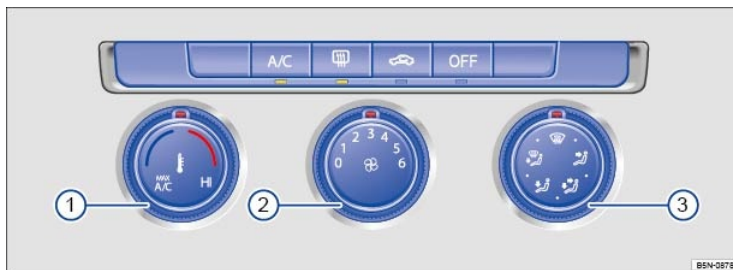
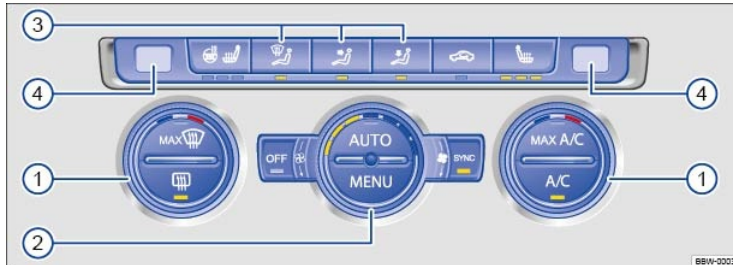

Fig. 104 In the center console: Manual controls.
Fig. 105 In the center console: Climatronic controls (may vary depending on equipment).
Press the **MENU** button in the Climatronic controls ⇒ Fig. 105② to open the air conditioning settings in the Infotainment system. Tap the corresponding function key switch a function on or off, or to select a submenu.
- **OR: Manual air conditioning:** Turn the fan knob to 0 ⇒ Fig. 104②.
- **Climatronic:** Turn the fan knob as far left as it will go ⇒ Fig. 105②
- *Manual air conditioning:* Turn the temperature knob $\Rightarrow$ Fig. 104① all the way to the left (**MAX A/C** position).
- *Manual air conditioning:* Turn the temperature knob $\Rightarrow$ Fig. 104① to set the temperature.
- *Climatronic:* Turn the outside knobs $\Rightarrow$ Fig. 105① to set different temperatures for the driver and passenger sides. The displays above the knobs ④ show the set temperature.
Turn the middle knob $\Rightarrow$ Fig. 104② or $\Rightarrow$ Fig. 105② to adjust the fan speed.
- *Manual air conditioning:* Turn the knob $\Rightarrow$ Fig. 104③ to direct air flow in the desired direction.
- *Climatronic:* Press the buttons $\Rightarrow$ Fig. 105③ to direct air flow in the desired direction. When automatic regulation (**AUTO**) is switched on, air flow is automatically adjusted to a comfortable level.
Manual air conditioning: Turn the right knob to position  $\Rightarrow$ Fig. 104③ to defrost the windshield as quickly as possible. The cooling system switches on automatically to dehumidify the air. When the defrost function is switched on, the air recirculation mode cannot be switched on.
Climatronic: Press the **MAX**  button $\Rightarrow$ Fig. 105① to defrost the windshield as quickly as possible. The incoming outside air is directed to the windshield, and air recirculation automatically switches off. Humidity is removed from the air at temperatures above about +38 °F (+3 °C), and the blower is set to a high speed.